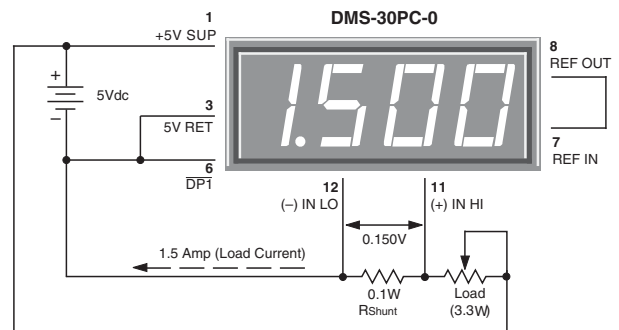

Figure 9. Basic DC Ammeter Circuit
**7. Digital Ammeter:** Digital ammeters are finding ever-increasing usage because analog-style ammeters (moving-vane types) now cost roughly the same as their digital counterparts. Additionally, analog ammeters are not nearly as rugged as modern digital panel voltmeters. Figure 9 illustrates a typical ammeter application. The circuit uses a  $\pm 200mV$  input meter